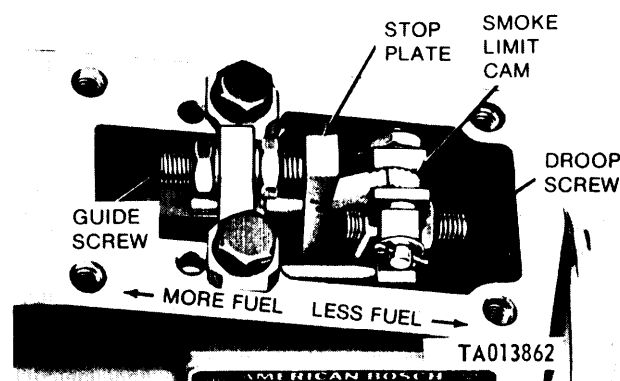
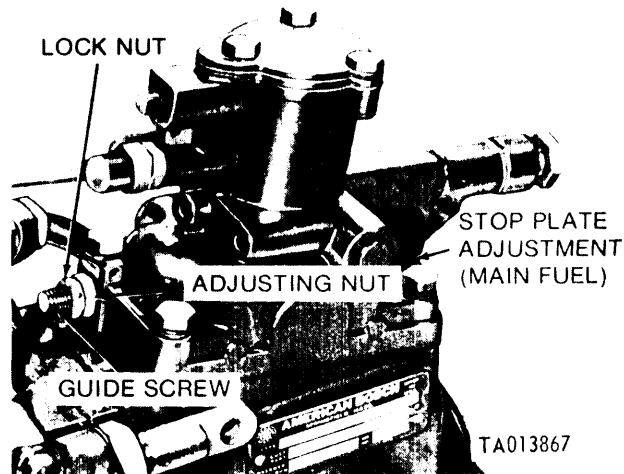

Figure 3-172. Adjusting droop screw and stop plate guide screw for desired fuel delivery (code G pumps).
Figure 3-174. Adjusting stop plate guide screw and stop plate for desired fuel delivery (code C, D, and E pumps).
(11) Remove operating lever dust cover. Remove socket head pipe plug from rear of governor housing on code A, B, E, and F pumps (fig. 3-163). (On code G pumps remove governor cover.) Back out droop screw (fig. 3-172) sufficiently to insure clearance between droop screw and stop plate, with operating lever in full-throttle position. The droop screw must not be in contact with the stop plate when setting full throttle fuel flow. Install governor cover on code G pumps.
(3) Adjust speed to 2600 rpm and check fuel pressure on gage (A, fig. 3-162) at compensator inlet. Fuel pressure should be 60-80 psi. Adjust stop plate guide screw (fig. 3-174) on code C, D, and E pumps, or (fig. 3-172) on code G pumps, to obtain fuel flow per Table 3-4 or 3-5.
(3) Adjust speed to 2600 rpm and check fuel pressure on gage (A, fig. 3-162) at compensator inlet. Fuel pressure should be 60-80 psi. Adjust stop plate guide screw (fig. 3-174) to obtain fuel flow per table 3-6. (See step c. (3) above for procedure,)
(4) Adjust speed to 2940 rpm and check fuel
(3) Adjust speed to 2800 rpm and check fuel pressure on gage (A, fig. 3-162) at compensator inlet. Fuel pressure should be 60-80 psi. Adjust stop plate guide screw (fig. 3-174) to obtain fuel flow per Table 3-7. (Refer to c (3) above for procedure.)
(4) Adjust speed to 3150 rpm and check fuel flow. Flow should be 5 cc or less to meet specification. If fuel flow is not within limit, the pump must be shut down and the high-speed (inner) governor spring must be checked and adjusted. (See